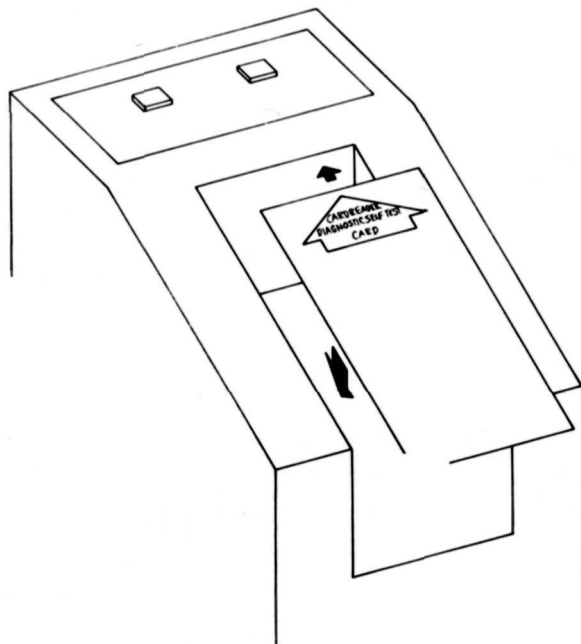

Figure 8. Inserting the Diagnostic Test Card
3. Place the Diagnostic Test Card (Figure 8) face down into the Card Reader Hopper.